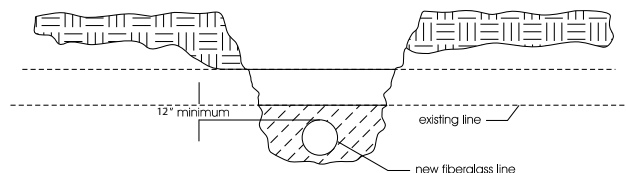

Figure 5- Line crossing burial depth
- **Line Crossings** (Figure 5)